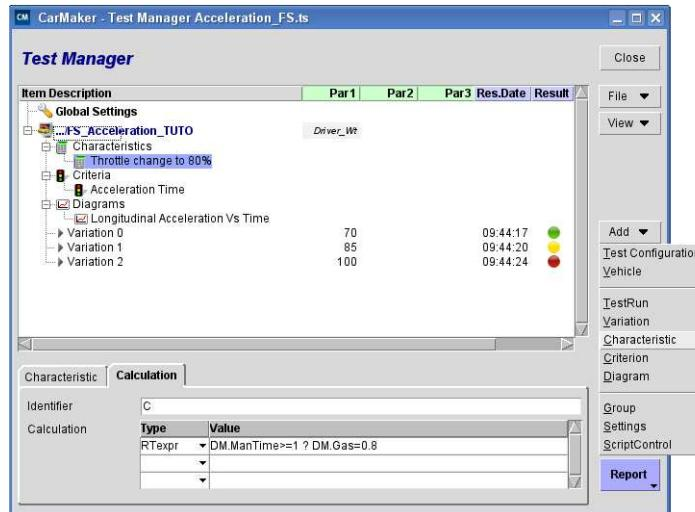

Figure 6.17: Defining Characteristic
You can create this variable in the Maneuver tab of the TestRun using Mini-maneuver Commands in the CarMaker GUI or by defining "Characteristic" ("Add > Characteristic", see Figure 6.17) in the respective TestRun of the TestManager.
- Using "Add > Characteristic" to add condition for 80% gas after 4 seconds as shown in Figure 6.17.